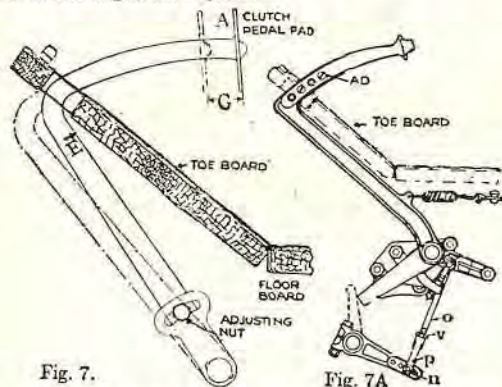

Fig. 7.
travels toward the toe-board, and when wear is sufficient (or pedal is out of adjustment) to permit clutch pedal to rest tight against the toe-board (see E, Fig. 7), without any free play, then the full action of the clutch spring is not obtained, thus causing slipping and rapid wear to frictional surfaces.
The main point to observe is that when the clutch is in the fully engaged position, the clutch pedal should have free play, or should depress from $\frac{3}{4}$ " to $1\frac{1}{4}$ " (see G, Fig. 7), under light spring pressure before the resistance of the heavier clutch spring is encountered.
On other types of clutches, where there is no clutch adjustment provided, it is necessary to adjust the clutch pedal to restore the free play, as shown at G, Fig. 7.
Note: It is also important to see that the pedal pad (A, Fig. 7) is clear of upper side of toe-board (D) when fully depressed, otherwise the clutch will not fully release. Sometimes the toe-board gets out of place.
Fig. 7. Illustrating what is meant by free play of clutch pedal. For a distance of $\frac{3}{4}$ " to $1\frac{1}{4}$ " travel of clutch pedal pad (see G), there should be free play. If clutch pedal is tight against the toe-board and there is no free play, then the clutch plates are worn, or the pedal is out of adjustment.